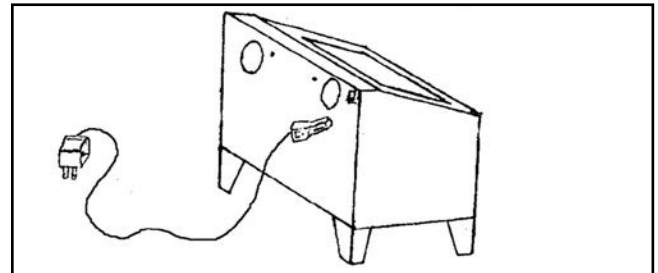

Figure 4. Light assembly.
4. Plug in the AC/DC adapter (see **Figure 4**).